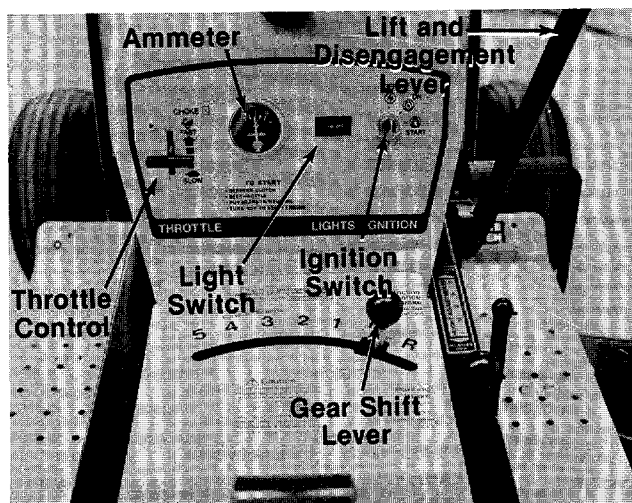

FIGURE 16.
The throttle control is used to regulate the engine speed and to activate the choke on the engine. To get maximum efficiency from cutting, the throttle should be in the FAST position when operating the mower. Pushing the throttle all the way forward past FAST, will choke the engine. See figure 16.
The gear shift lever is used to shift into one of five Forward Gears, "NEUTRAL" or "REVERSE." See figure 16.
Turn the key to the "START" position to start the engine. When the engine is running, let the key return to the "ON" position. To stop the engine, turn the key to the left to the "OFF" position and remove it to prevent accidental starting. See figure 16.
Push the light switch to turn on the lights. The lights will only operate when the engine is running. See figure 16.
The ammeter registers the rate of battery charge or discharge. The ammeter should register on the plus side (+) when the engine is running in the fast position until the battery is completely charged. With a fully charged battery or with the engine idling, the ammeter will not show a charge. See figure 16.
The lift and disengagement lever is used to raise and lower the cutting deck. Pulling it all the way back and locking it disengages the blades. The lift and disengagement lever **must** be in the disengaged position when starting the engine and when shifting into reverse. See figure 16.
5. Set the throttle control in the CHOKE position. See figure 16.
6. Turn the ignition key to the "START" position. When the engine is running, let the key return to the "ON" position. See figure 16.